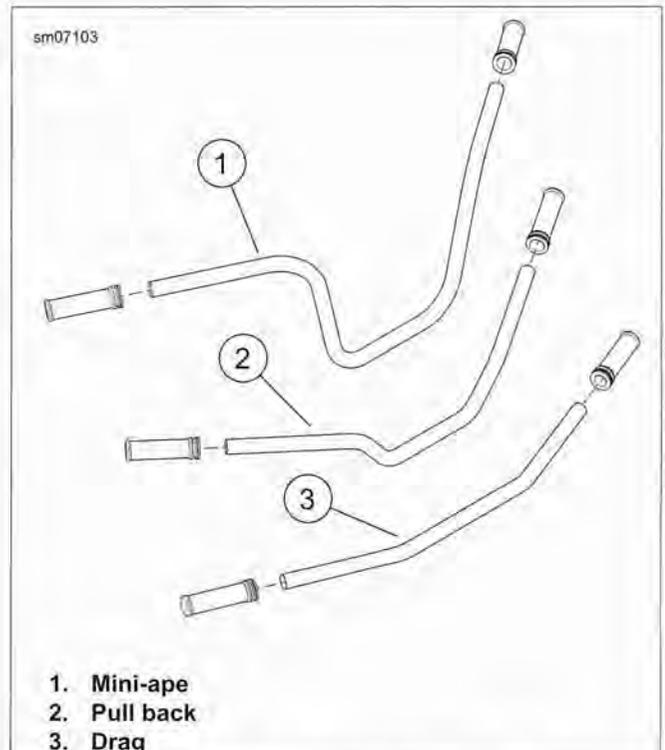

Figure 2-187. Handlebars: XL 1200CP
**Drag Bar:** See Figure 2-187. See **Removal, XL 1200C.**
**Mini-Ape** See Figure 2-187. See **Removal, All Models except XL 1200C.**
**Pull Back:** See Figure 2-187. See **Installation, XL 1200C.**